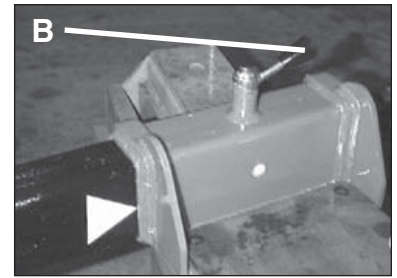

fig. 11
- Position the lever **B** (fig. 11) in the position of the fig. 11 a; the spring loaded security pin will be released from its position.